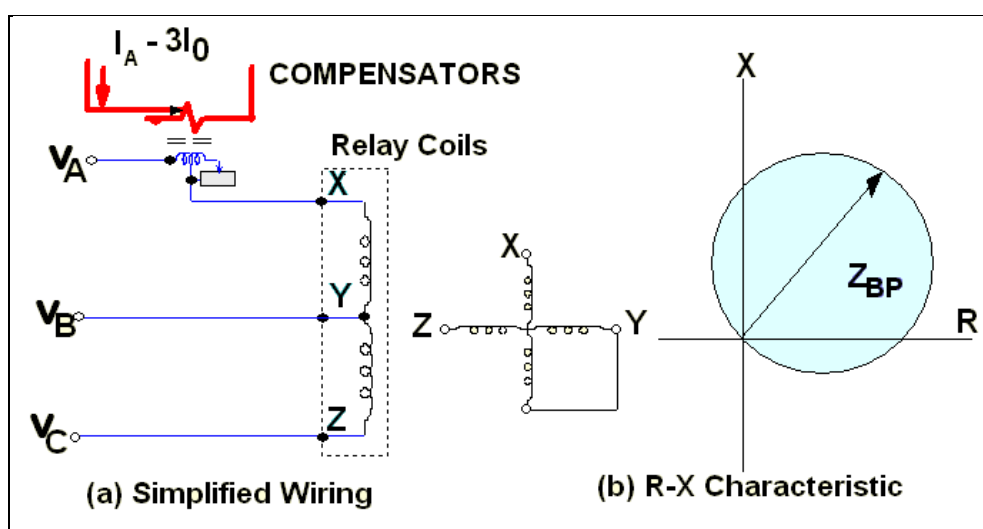

Fig. 2.2-22 Type KD Relay Three-Phase Unit
The second relay unit in the KD relaying system is the three-phase unit. The basic electrical circuit of this relay is shown in Fig. 2.2-22(a). The three-phase unit also uses a four-pole induction cylinder relay unit, but only a single compensator. This compensator is connected in series with the phase (A) voltage lead to the relay unit. Its primary is energized with the current,  $(I_A - 3I_0)$ . Phase (B) and phase (C) voltages are connected directly to points (Y) and (Z), as shown in Fig. 2.2-22(a). The three-phase relay has a characteristic circle, which passes through the origin, as shown in Fig. 2.2-22(b).